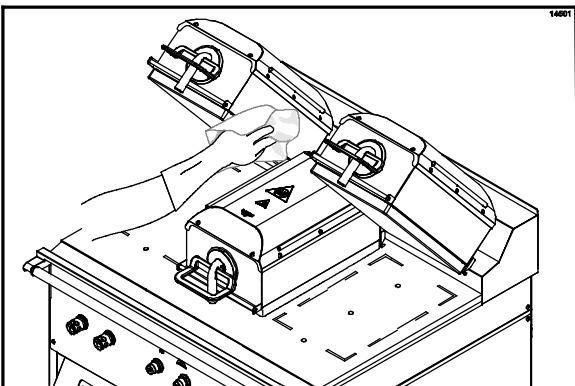

Figure 104
34. Rinse the inner edges of the right and left platens with a clean, sanitizer-soaked grill cloth. (See Figure 104.)